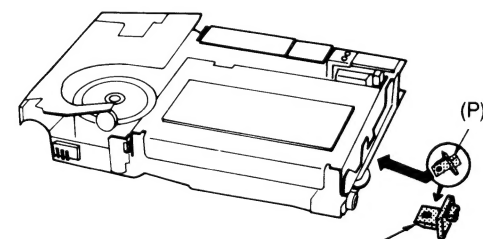
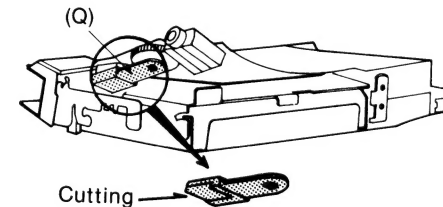

Fig. 10
Fig. 11
1. Slightly lift the end of the PC board as shown in Fig. 11, and pull out the mic sensitivity select switch knob (P). (Fig. 10, 11) (Do not lift the PC board too high as the pattern foil on the board may be damaged.)
2. Remove the switch holder (Q). (Fig. 11)